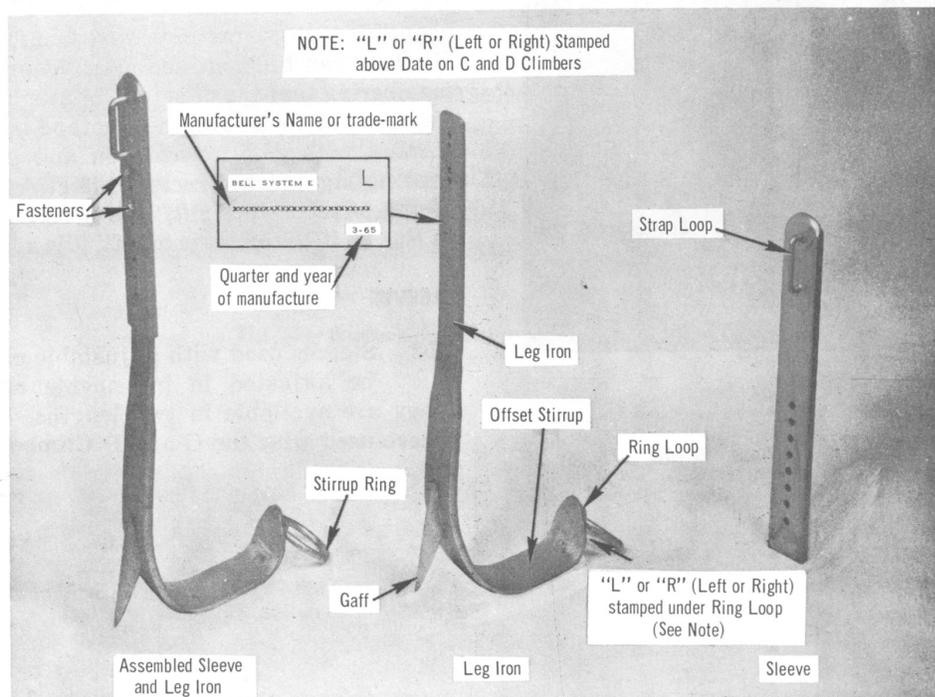
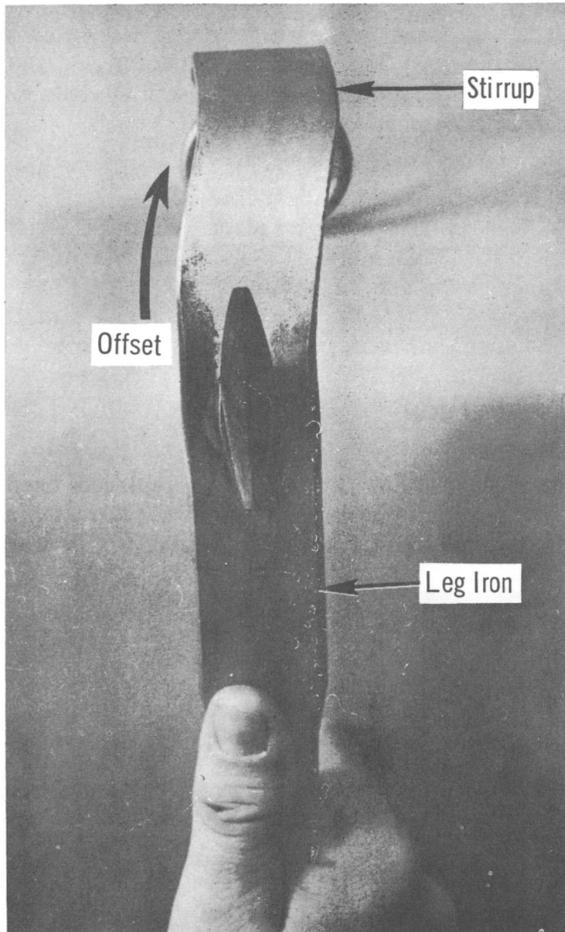

Fig. 1 — E Climber
Fig. 2—Stirrup Offset "Right"
superseded by the D Climber in which the stirrup was widened 1/4 inch to give more room for overshoes and the gaff raised 1/8 inch for better ground clearance when stepping off a pole. The E Climber, Fig. 1, which supersedes the D
2.02 Adjustable climbers have offset stirrups, therefore, they are made for the right and left foot and are marked "R" or "L" on the appropriate climber as indicated in Fig. 1. These climbers can be identified as right or left by remembering that the offset of the stirrup is toward the front of foot. Another method is to hold the climber with gaff toward you and pointing up, then noting which direction the stirrup is offset. If the offset is to right, it is a right climber as in Fig. 2; if the offset is to left, it is a left climber.